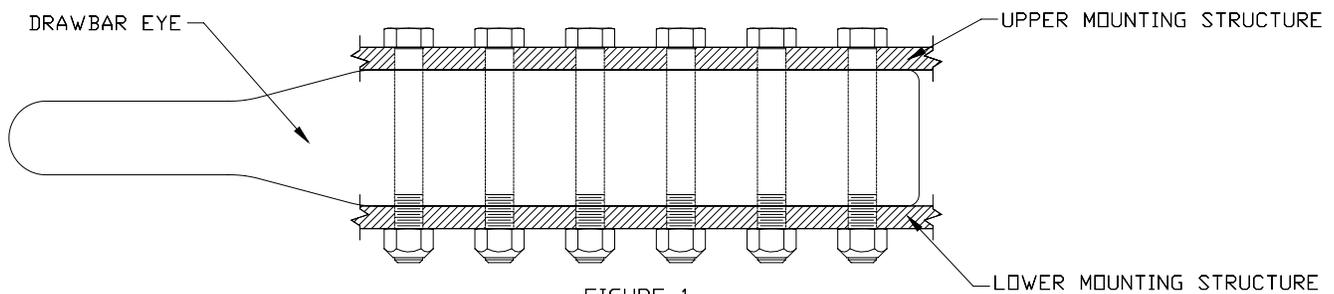

FIGURE 1
3. Secure the 238DB, 245DB or 245DB-3 Drawbar Eye using 5/8" grade-8 bolts and grade-C locknuts. Torque nuts to SAE specifications. THE MOUNTING STRUCTURE MUST ATTACH TO BOTH THE UPPER AND LOWER SURFACES OF THE DRAWBAR EYE, AS SHOWN IN FIGURE 1. ALL BOLT HOLES MUST BE USED.